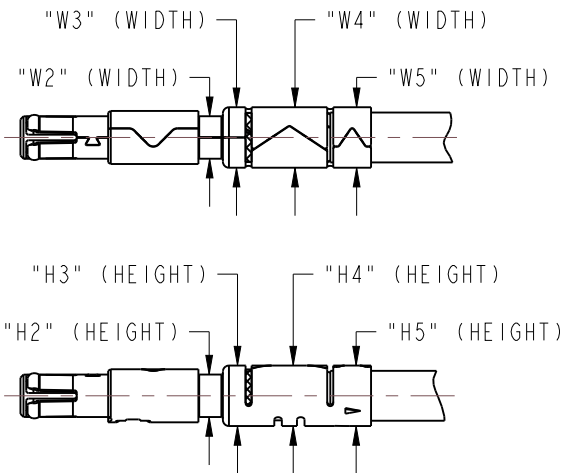

FIGURE 6
5. CRIMP BODY SUB-ASSEMBLY ONTO CABLE AS SHOWN IN FIGURE 6 USING CRIMPING SPECIFICATION IN TABLE 7.1.